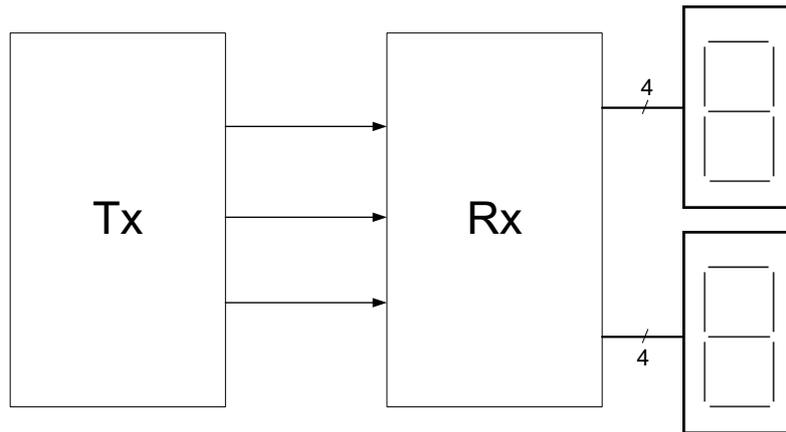

Fig. 3 Block diagram of the complete system.
1. This part is to build the receiver (RX). The receiver should have two seven-segment displays to show the received data bits, one display for the most significant three bits, and the other one for the rest four bits. The received data should be latched until next 7-bits are available. The block diagram of the complete system is shown in Fig. 3.